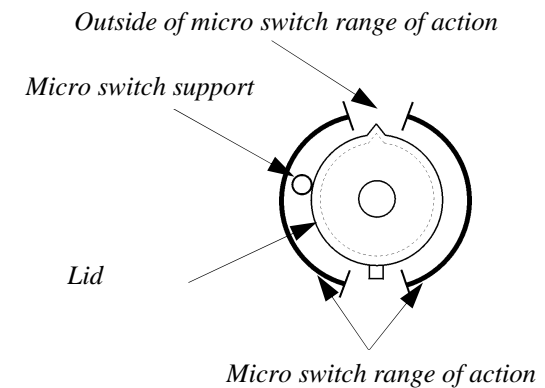

FIG.n.8 - Jug positioning
- 3 Make sure that the jug is inserted properly, paying attention to the position of the micro switch support which must respect the range of action of the magnet in order for the blender to work, as shown in FIG. n.8;
Before the test inspection of the appliance, make sure that the jug is in the proper position. The micro switch support must be in its range of action (see FIG. n.8). Then test the functioning as follows: